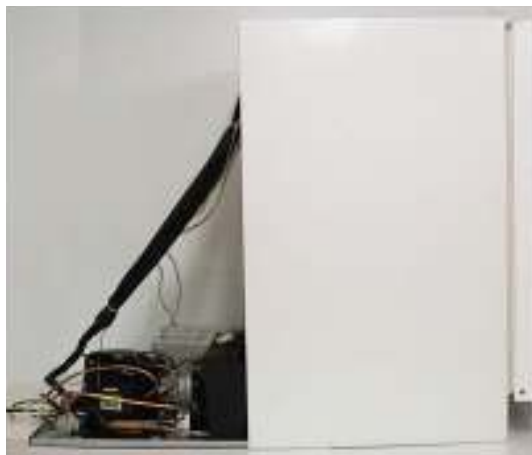

Figure 3.5
7. Remove the six screws that secure the baseplate to the cabinet on the bottom of the unit (see figure 3.5).
17. Remove the six screws that secure the baseplate to the cabinet on the bottom of the unit (see figure 3.5).